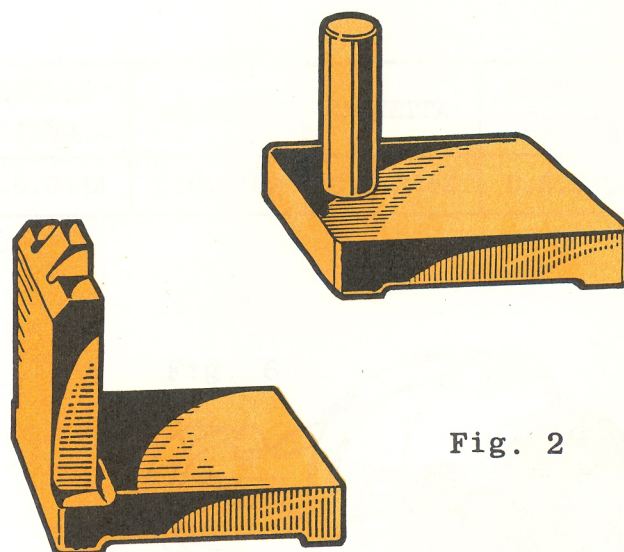

Fig. 2
- 2** Zero set the dial gauge against the applicable reference gauge (see fig. 2) by adjusting in height the column "C"; tighten in place with the setscrew "D".